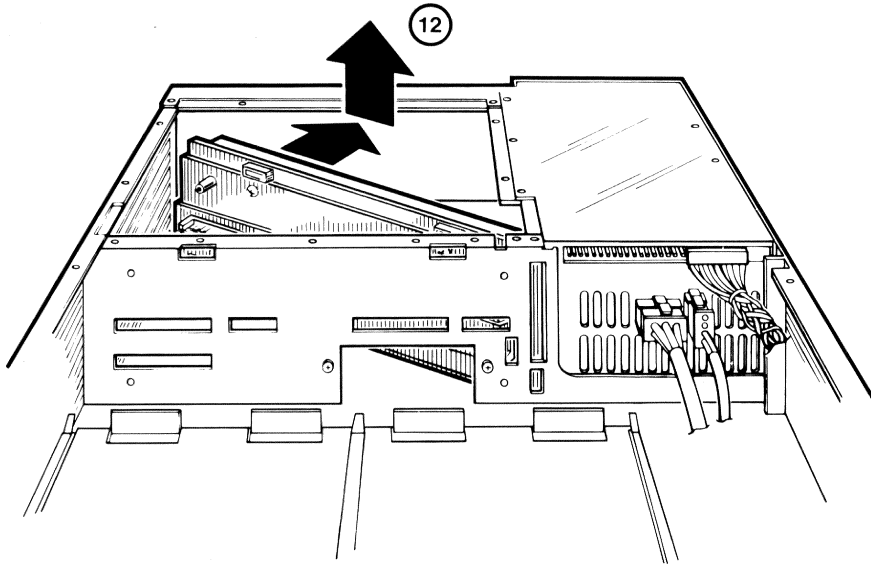

Figure 6-15 Backplane Removal (Step 12)
12. Pivot the CD side of the backplane assembly 45 degrees toward the rear and lift it straight up. (Figure 6-15)